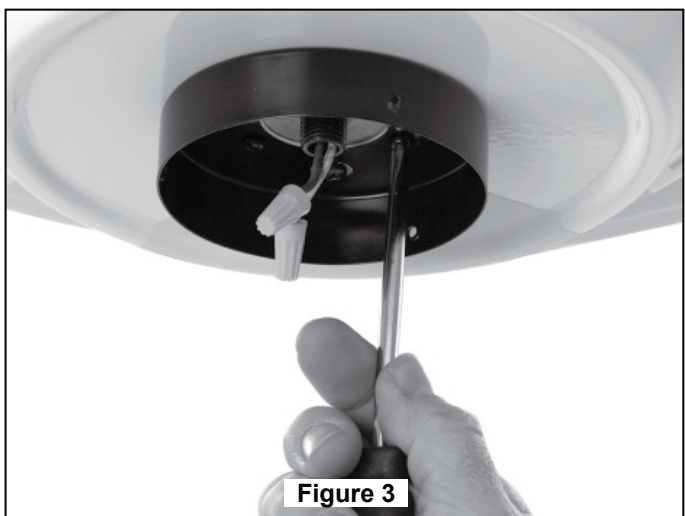

Figure 3
10. Slide the Motor Coupling Cover down until it touches the top of the Housing. (Figure 3)
4. Carefully lift the fan and seat the downrod/hanger ball assembly on the hanger bracket that was just attached to the ceiling joist. Be sure the groove in the ball is lined up with tab on the hanger bracket. (Figure 3)
5. Attach the safety cable to ceiling support cable. Slide cable clamp onto safety cable (from fan). Place the end of cable through the loop of ceiling support cable. Pull as much cable through loop as possible. Feed end of cable into clamp hole and firmly tighten screw (Figure 3). Cut off excess safety cable.
- Connect wires as indicated: (Figure 3)